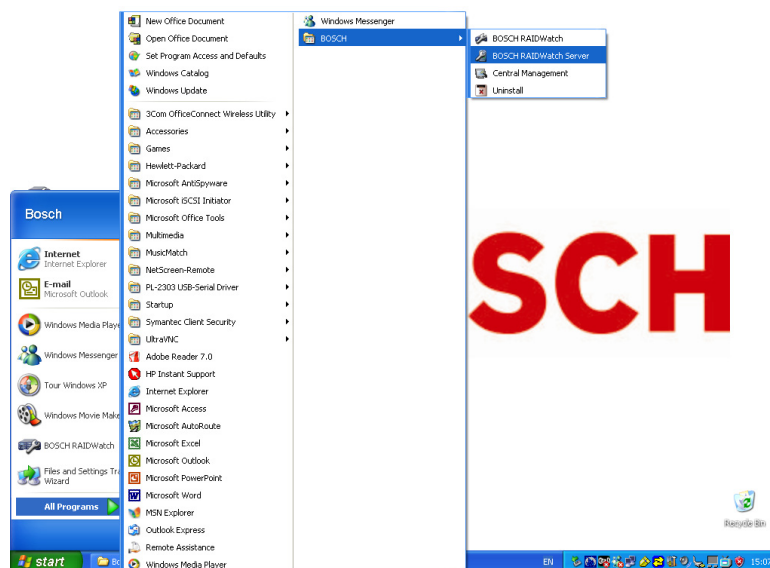

Fig. 4.1 Bosch RAIDWatch Server Shortcut on Windows Startup Menu
2. If you are using a Windows operating environment, you may start the Bosch RAIDWatch Server by double-clicking on the *Bosch RAIDWatch Server* shortcut on your Windows Desktop. Otherwise, click the windows **Start** button, point to **All Programs** and **Bosch**, and then click **Bosch RAIDWatch Server** (see *Figure 4.1*).